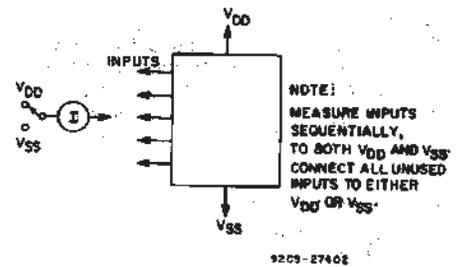

Fig. 31—Input-leakage-current test circuit.
**B. Variations Due to  $V_{DD}$  and Temperature Changes** — In addition to variations from unit to unit, the astable period varies with  $V_{DD}$  and temperature. Typical variations are presented in graphical form in Figs. 31 to 18 with 10V as reference for voltage variations curves and 25°C as reference for temperature variations curves.